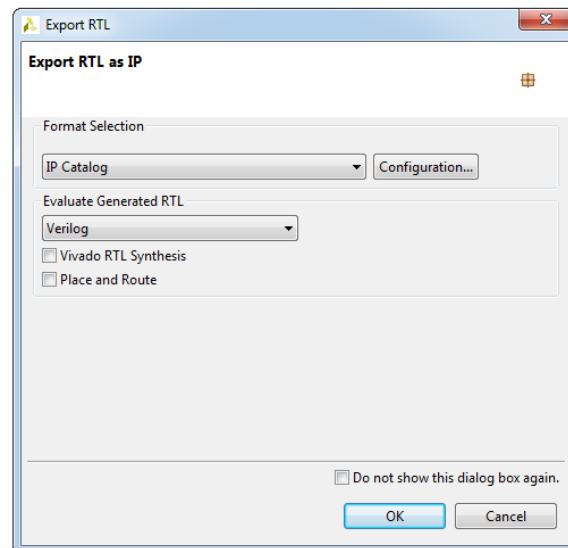

Figure 2.62: Export RTL dialog box
2. In the **Export RTL** dialog box choose **IP Catalog** option from the **Format Selection** drop down list, see Figure 2.62.